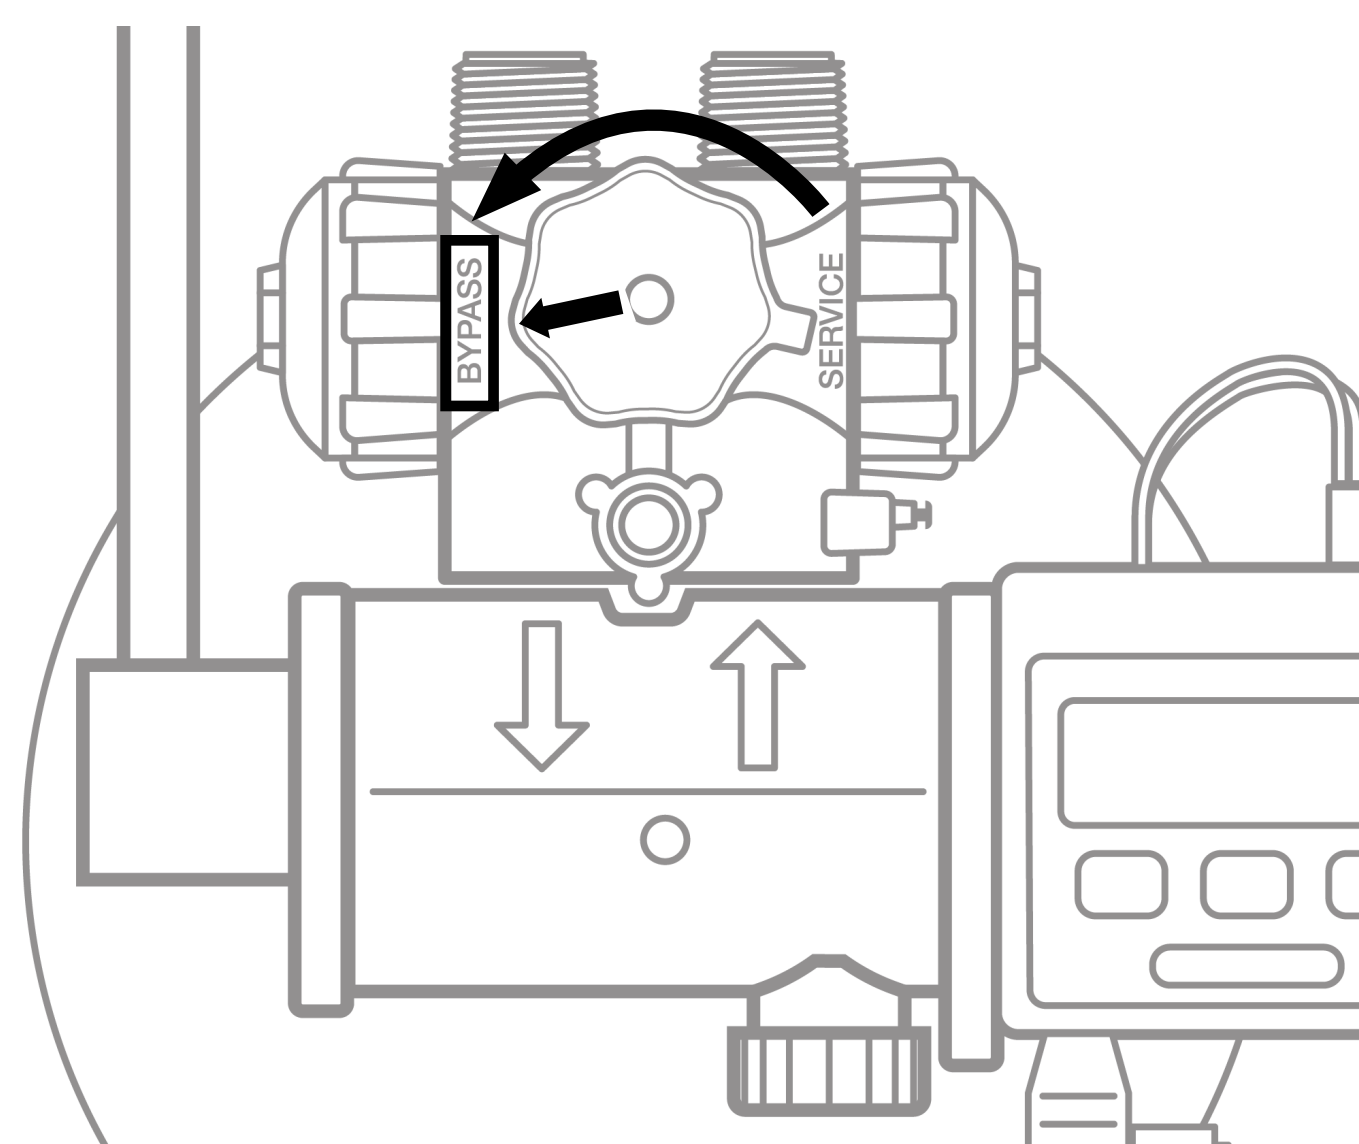

Figure 5: Bypass Position
1. Place the appliance in the Bypass position. (See Figure 5)